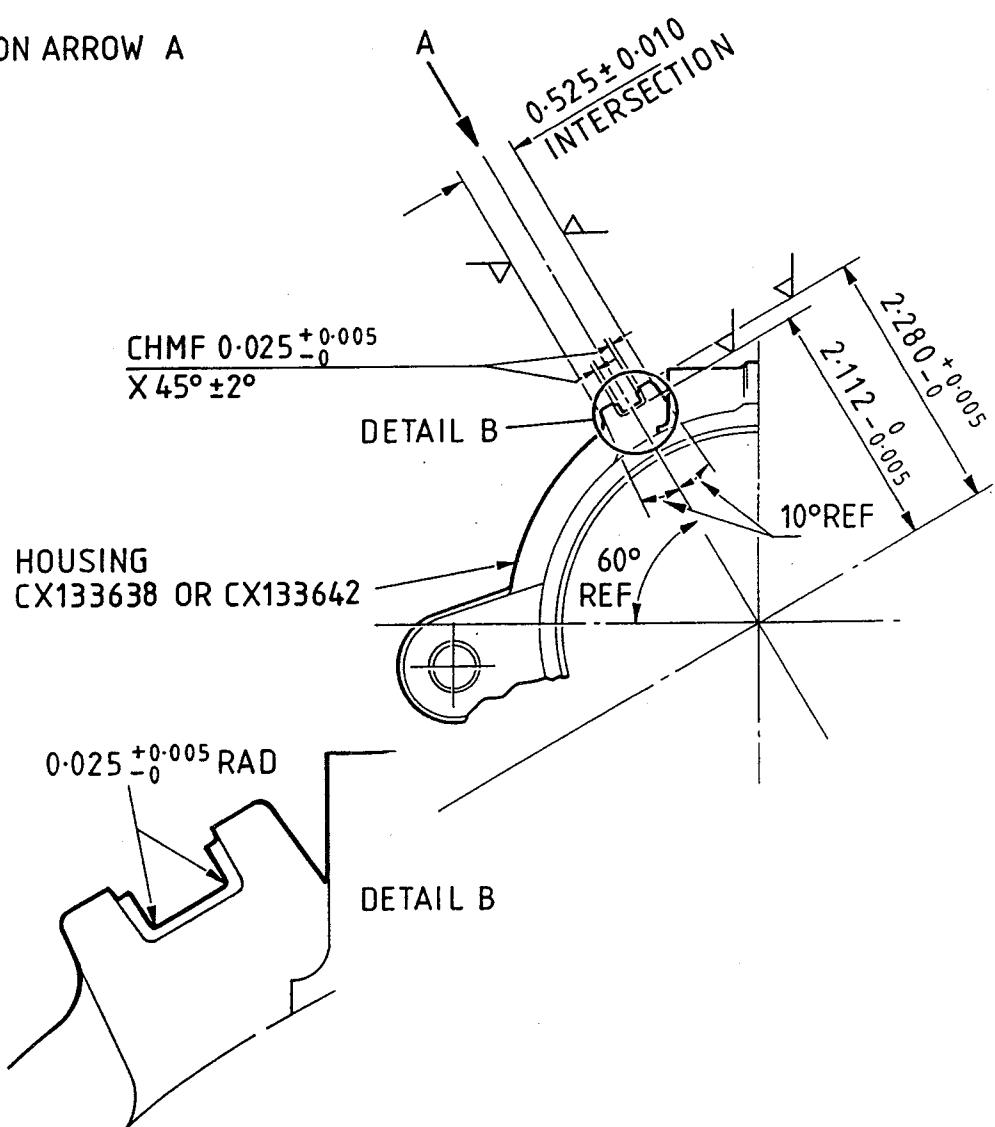

Figure 5 Repair of housing assemblies: slot
24.3 Machine back to original dimensions as shown in fig 5 (slot) or fig 6 (peg).